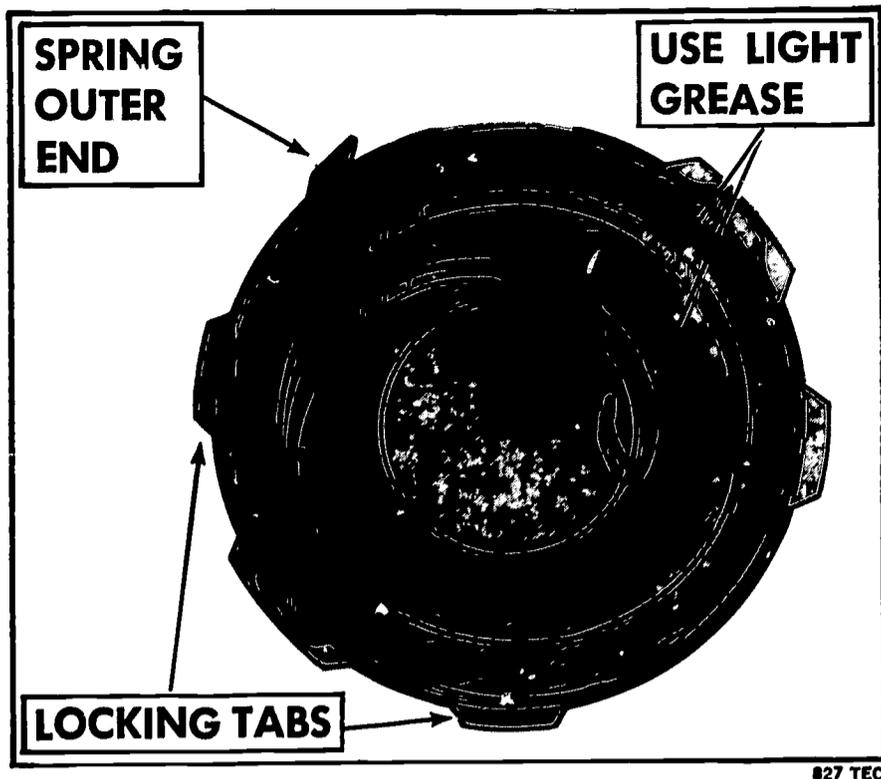

FIGURE 45. A main spring assembly.
5. Remove the main spring assembly (Figure 45).